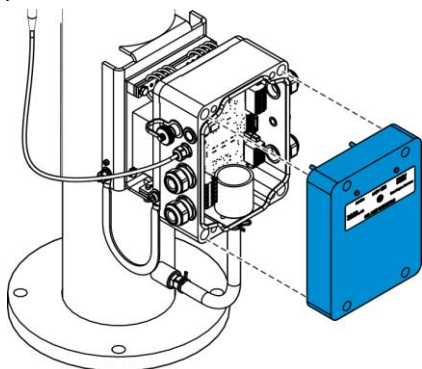

Fig. 59: Attaching the housing cover
10. Attach the housing cover (Fig. 59).